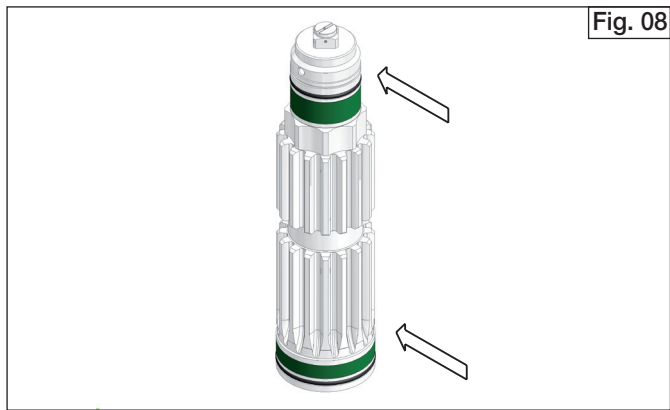

Fig. 08
- Insert on both the stop cap screw (02), the nut (04), the washer (03), the O-ring (11) and the spring clip (02.1).
**B) Drive shaft assembly (Part N° 60), Fig. 08, 09 and 09A:**
- Install top and bottom pinion bearings (06) and (07) and top and bottom pinion O-rings (20) and (21) onto the shaft.
- Grease the outside surface of the drive shaft on top and bottom as shown in figure 08.